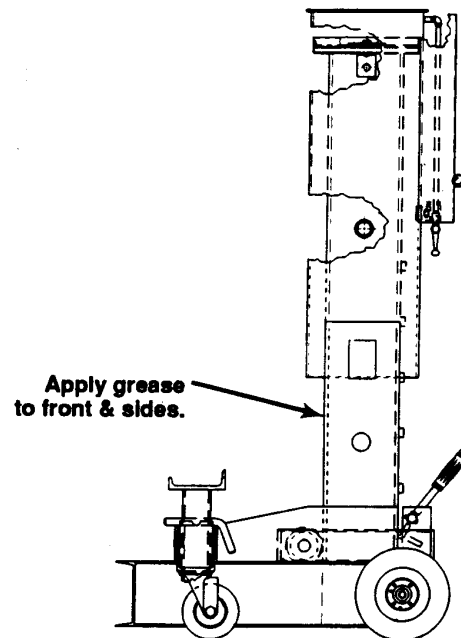

Figure 5
2. Apply grease to the front and sides of the upright center tube. See Figure 5.